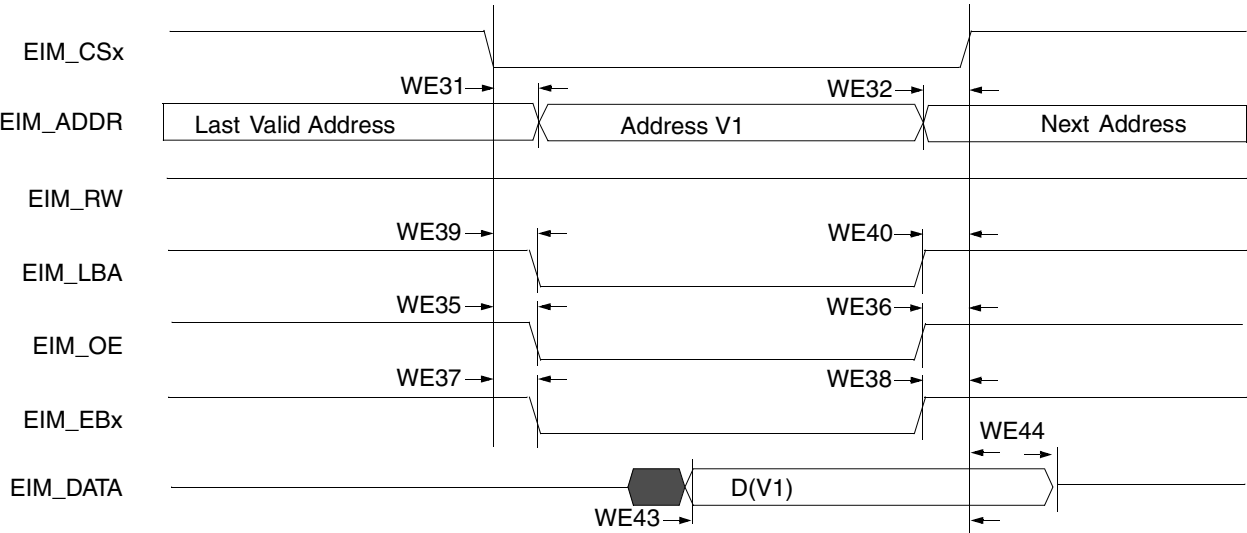
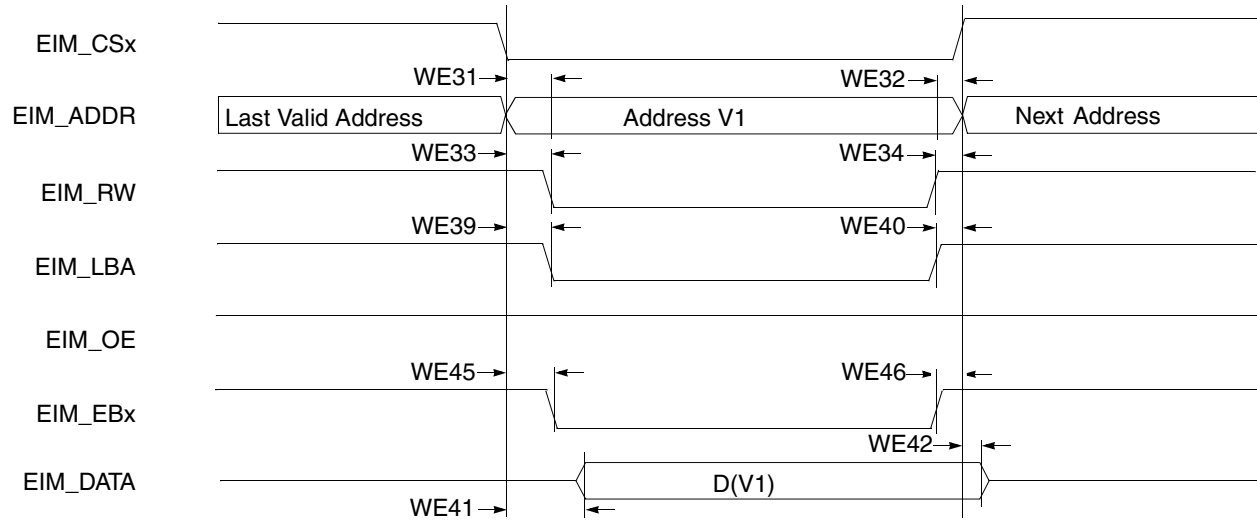
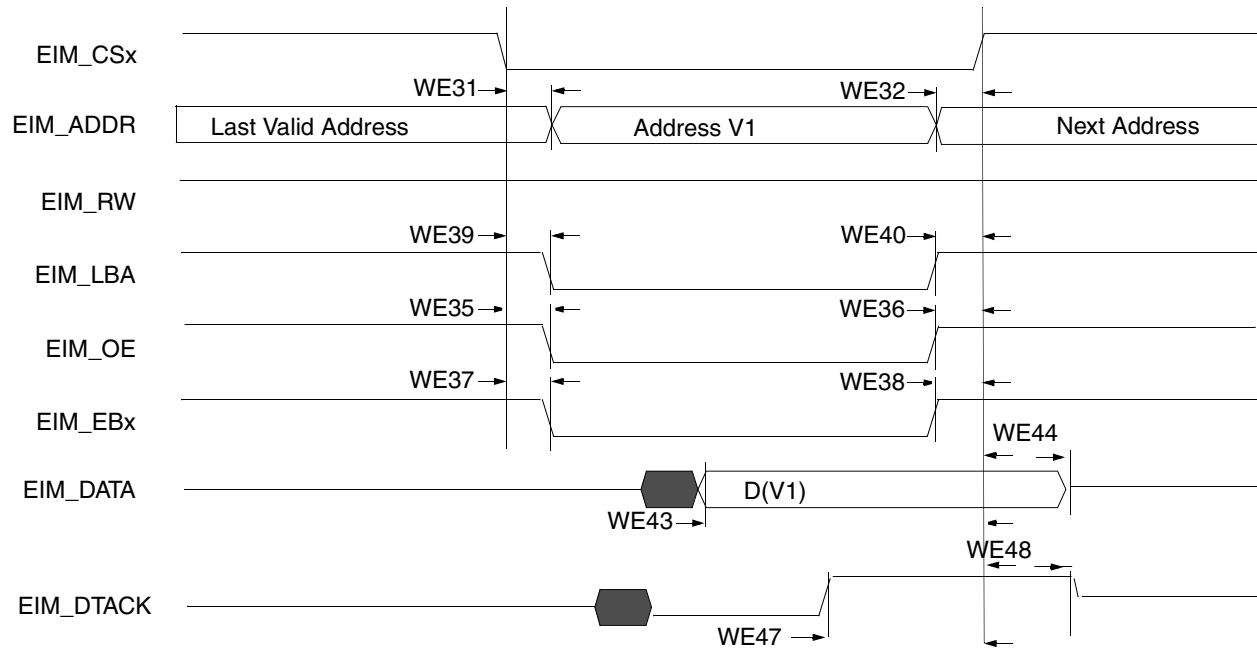

Figure 25. Asynchronous Memory Read Access
Figure 26. Asynchronous Memory Write Access
Figure 27. DTACK Read Access
Figure 25, Figure 26, Figure 27, and Table 44 help to determine timing parameters relative to the chip select (CS) state for asynchronous and DTACK EIM accesses with corresponding EIM bit fields and the timing parameters mentioned above.